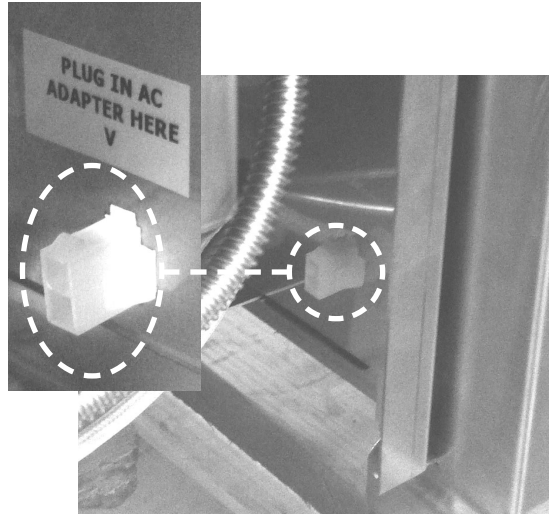

Fig. 2
- Make the transformer connections to the wire harness plug, located at the left rear of the front panel, to the harness of the transformer box. (Fig. 2)